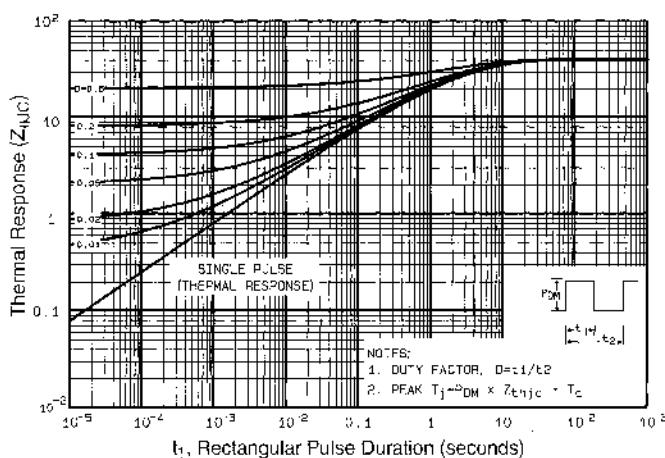

Fig 11. Maximum Effective Transient Thermal Impedance, Junction-to-Case
① Repetitive rating; pulse width limited by max. junction temperature (See Figure 11)
② $I_{SD}\leq 3.3\text{A}$, $di/dt<70\text{A}/\mu\text{s}$, $V_{DD}\leq V_{(BR)DSS}$, $T_J\leq 150^\circ\text{C}$ ③ $V_{DD}=50\text{V}$, starting $T_J=25^\circ\text{C}$, $L=81\text{mH}$